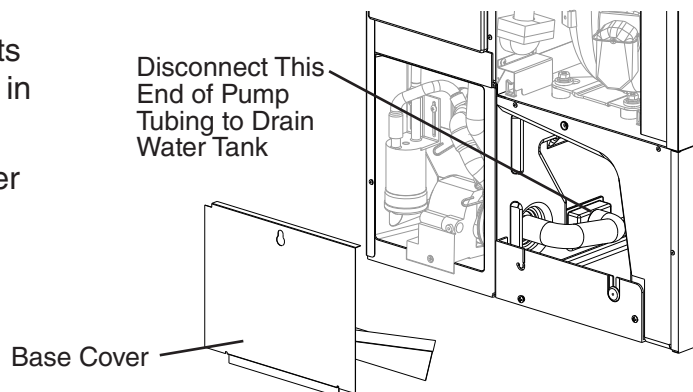

Fig. 18
- 7) Remove the base cover, then disconnect one end of the pump tubing to drain the water tank. See Fig. 18.
- 5) Remove the base cover, then disconnect one end of the pump tubing to drain the water tank. See Fig. 18. After the water tank has drained, reconnect the pump tubing.